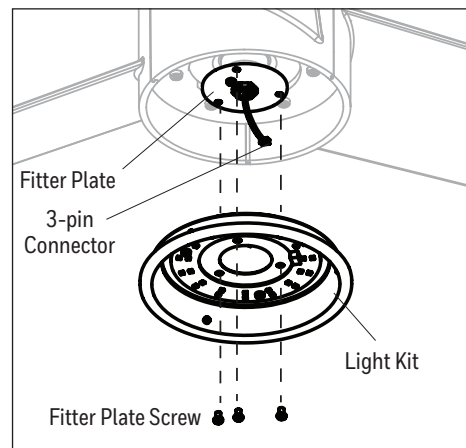

Figure 5.5
5. Remove the three fitter plate screws preassembled to the fitter plate. Feed the 3-pin connectors through the center hole in the light kit. Secure the light kit with the fitter plate screws (Figure 5.5).